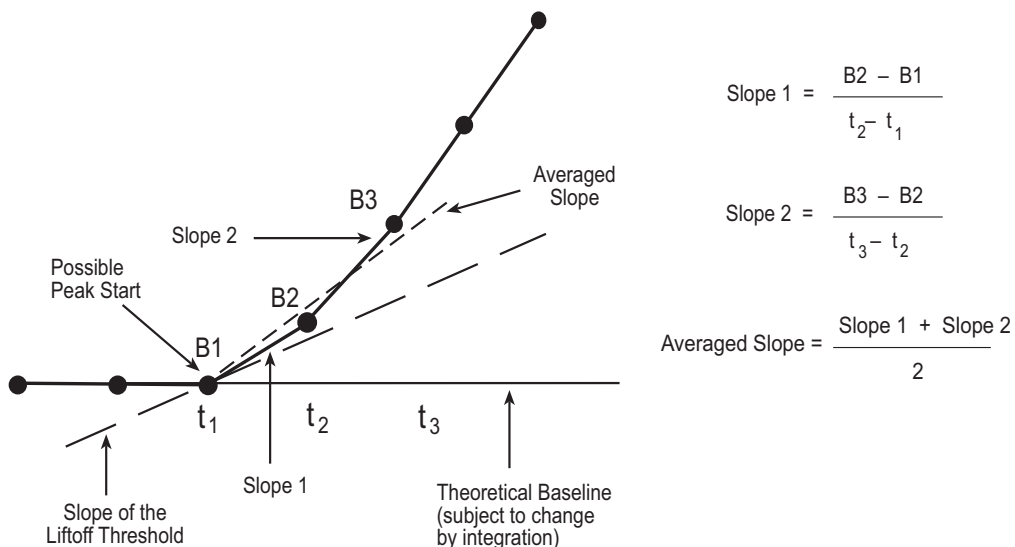

Figure 3-2 Determining Possible Peak Start
- a. The software averages the signal slope across two data bunch intervals and then compares it to the liftoff threshold (Figure 3-2).